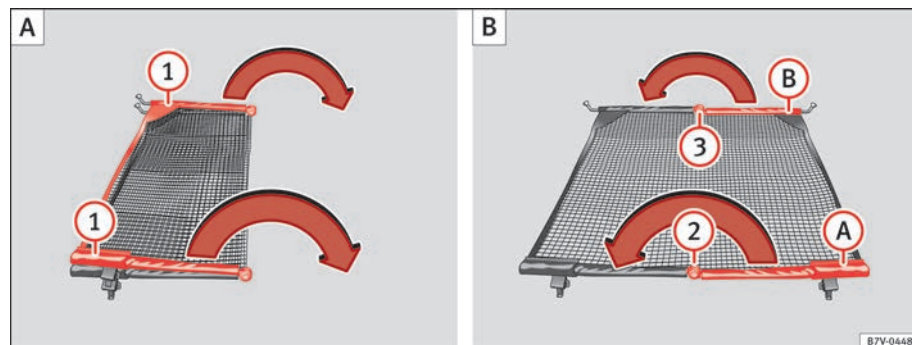

Fig. 93 Unfold the net partition ① then fold it again ② and ③.
Fold out the support transversal rods  $\Rightarrow$  fig. 93 ① for the net partition fully in the direction of the arrow until you hear a “click”.
- Press on the release button ⇒ fig. 93 (2) and bend the rod (A) in the direction of the arrow with the release button pressed.
- Press on the release button (3) and bend the rod (B) in the direction of the arrow with the release button pressed.